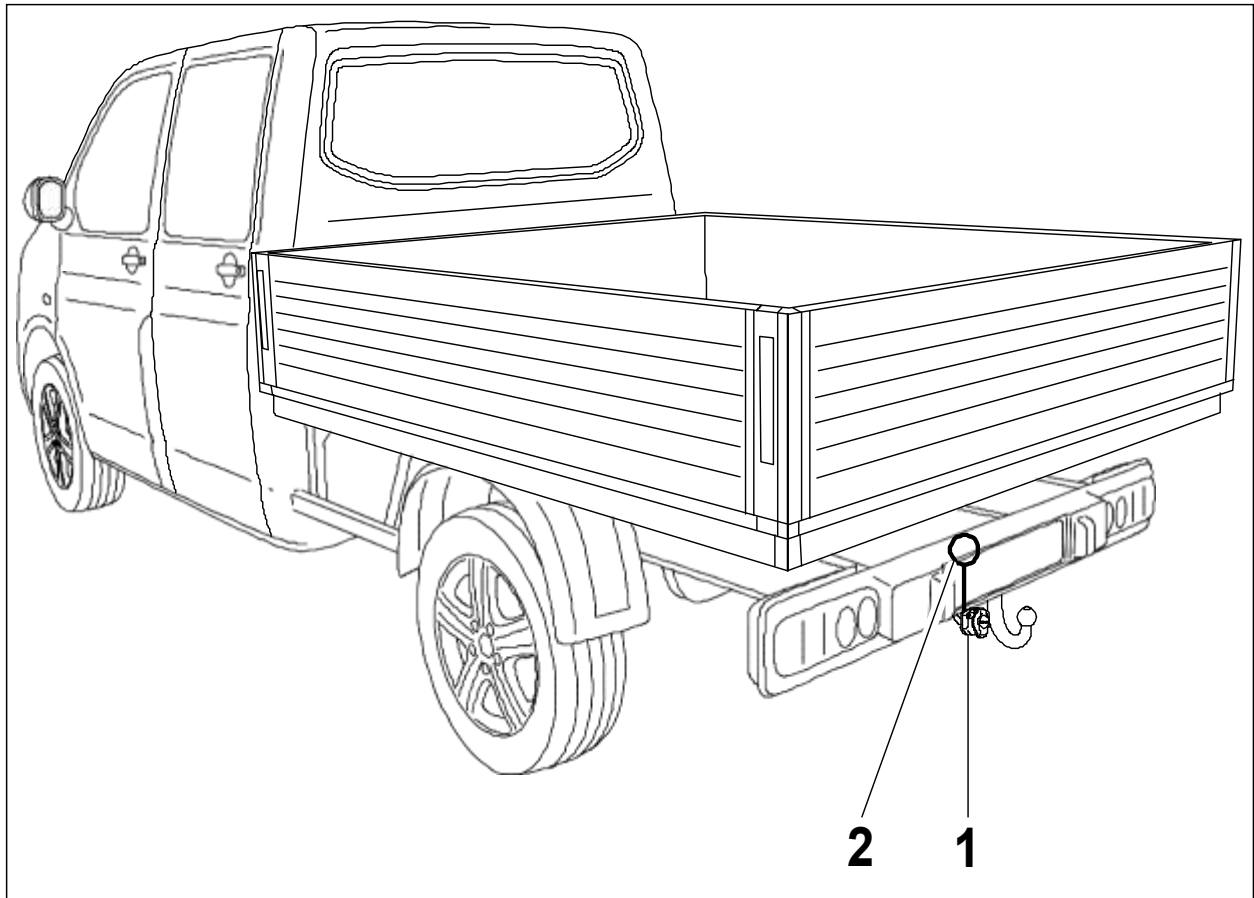

Fig. 1: Installation overview
2. Remove the 2 counter-sockets (no longer required) from the vehicle-side 2- and 14-pole socket connector (Fig. 1/2) and connect and click in the 2- and 14-pole socket from the socket wiring harness.
3. Feed the microswitch housing and the contact insert through the hole in the socket mounting (Fig. 1/1).
6. Screw the socket to the cross tube or socket mounting (Fig. 1/1) using the screws in socket, torque setting: max. 2.0 Nm.